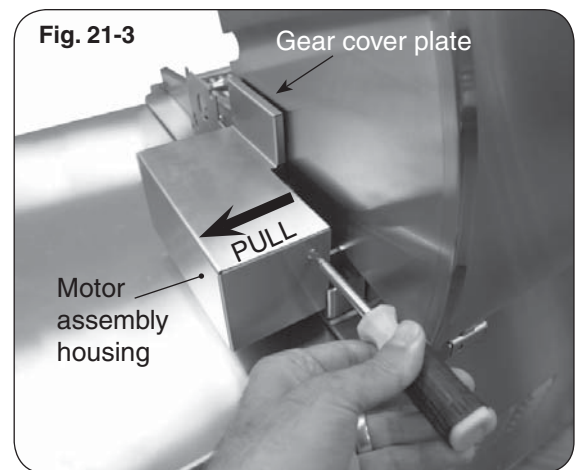

Fig. 21-3
2. Use a Phillips screwdriver to remove the stainless-steel motor assembly housing screw. Pull the top of the housing first up and then outward away from the lid until the top of the shroud clears the lip of the motor mount beneath, then remove the housing completely and set it aside (Fig. 21-3).